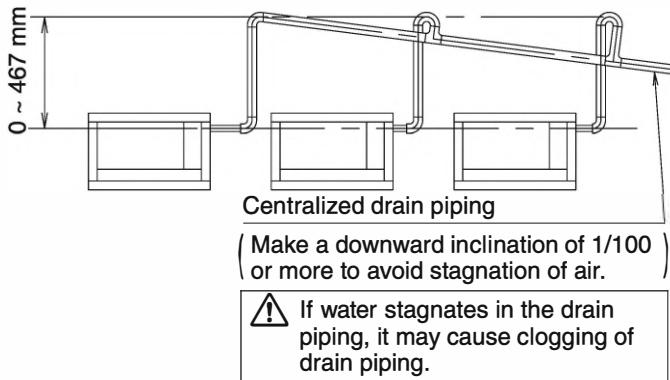

Fig. 14
- To avoid the attached drain hose (2) getting excessive force, do not bend nor twist it. It may cause water leakage.
- In case of centralized drain piping, carry out piping work according to the procedure shown in the following **Fig. 14**.